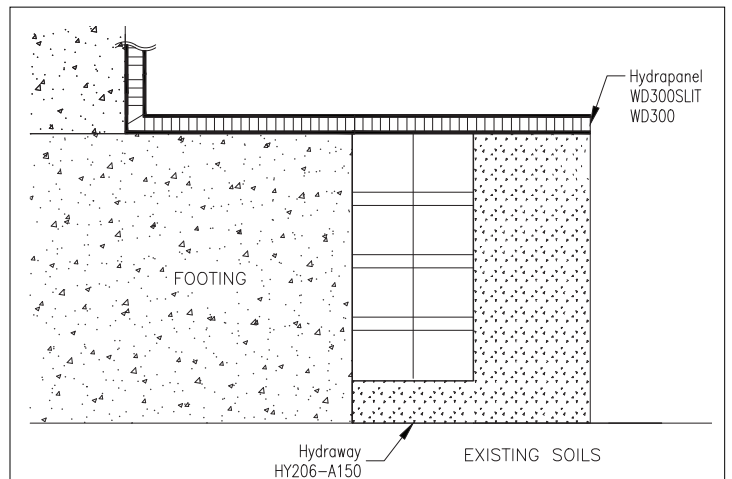
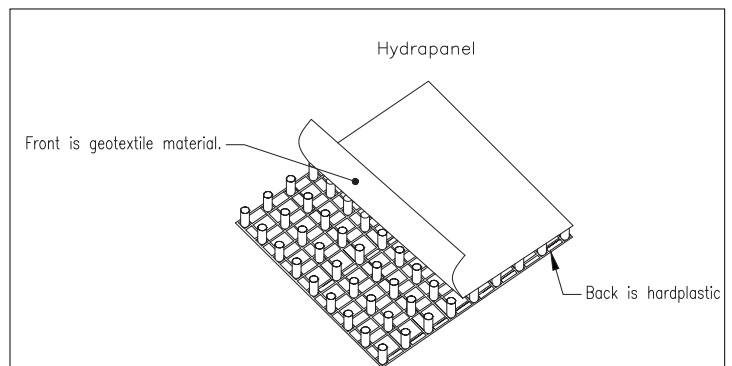

Figure 5. HydraPanel extending width of footing, plus overage.
Figure 6. Front and back of HydraPanel.
1. HydraPanel should extend the entire width of the footing, including 2 inches over the top of Hydraway plus enough material to extend past the slab vertically. Cut the roll of HydraPanel to the appropriate size (See Figure 5).
2. Set HydraPanel on top of the footing (fabric side down, plastic side up) (See Figure 6). The portion of HydraPanel that is extended past the slab should be folded vertically and made flush with the wall. The remaining material should sit flat on top of the footing (See Figure 5). After installation, HydraPanel can be trimmed to provide a finished appearance.